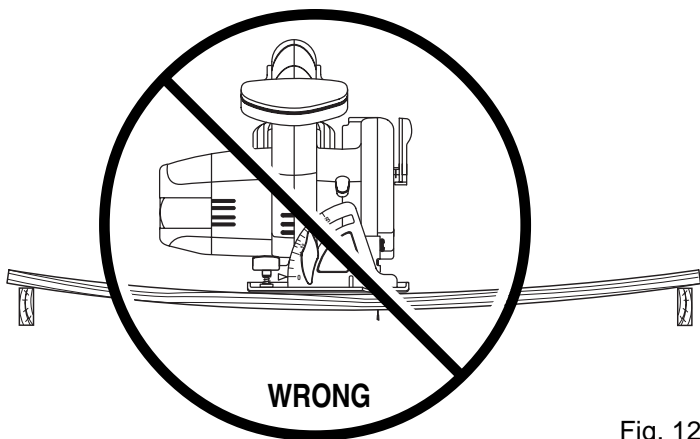

Fig. 12
- Incorrectly supporting workpiece. See Figure 12.
- To avoid pinching the blade, support the workpiece properly before beginning a cut. The right and wrong ways to support large pieces of work are shown in figures 12 and 14.